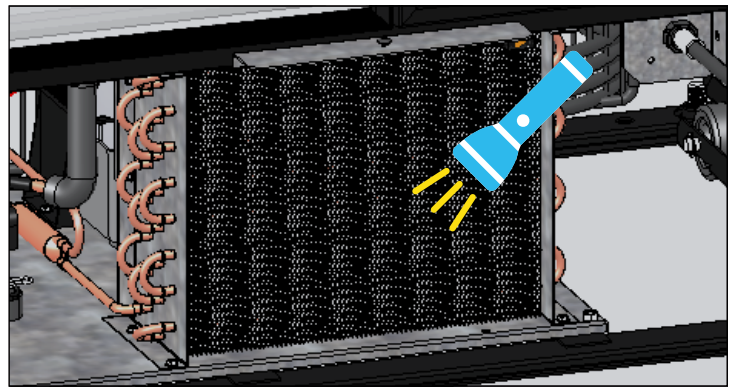

Fig. 4. Verify all blockages have been removed.
4. With dirt removed from the surface of the coil, use a flashlight to verify that you can see through the coil and observe the condenser fan blade spinning. See fig. 4.